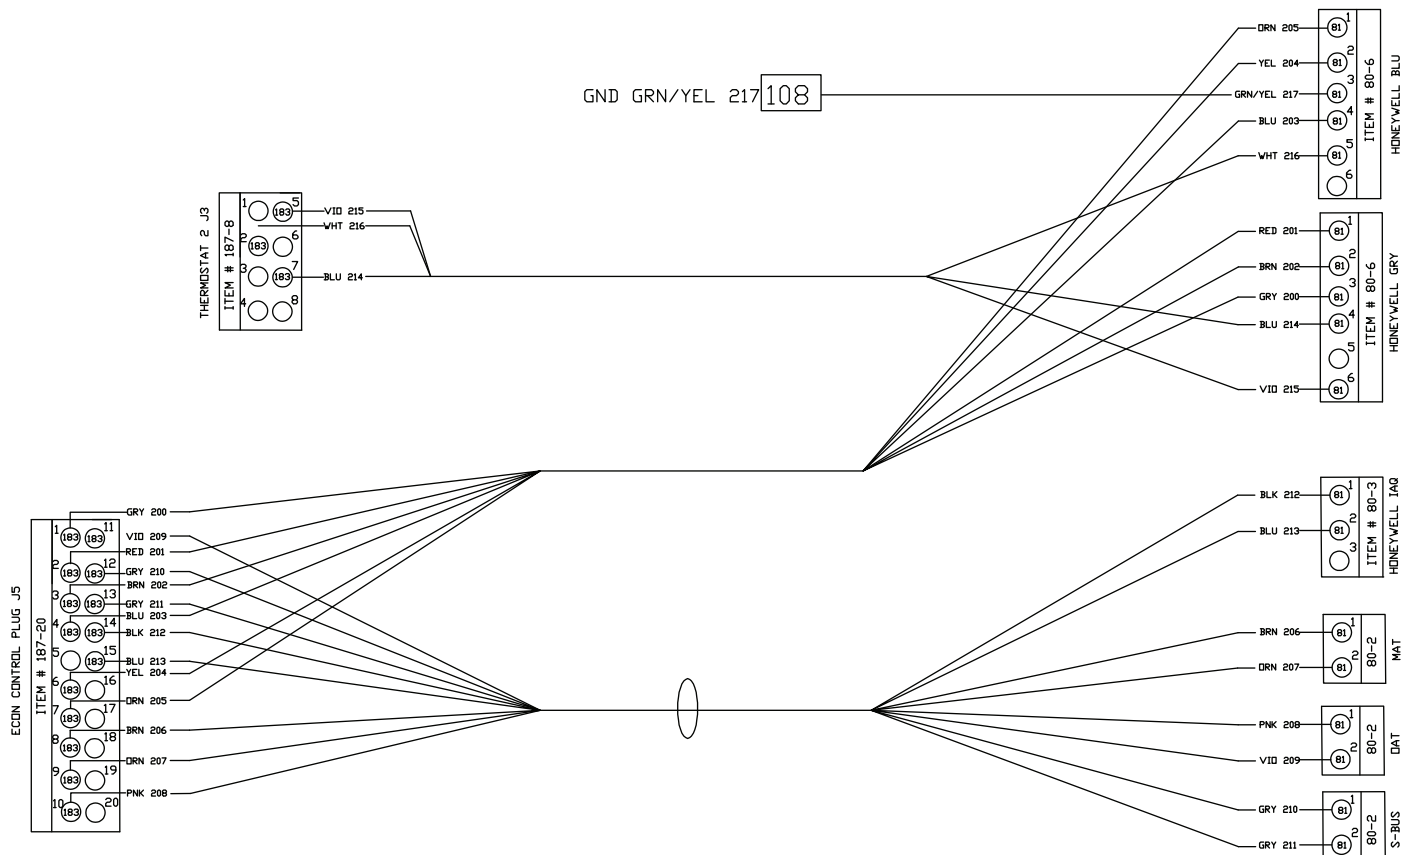

Fig. 26 — 48LCHSRADH--A00 W7220 Controller Harness Shipped With 48/50LC 07-12 Units
3. Step LC3. The 48/50LC 07-12 units that do not have a factory-installed economizer will have a new Jade W7220 controller wiring harness shipped in the control box section of the HVAC unit. This harness, Carrier part number 48LCHSRADH--A00, is shown below in Fig. 26 and 27.
4. Step LC4. The connectors on the right side of Fig. 26 on the 48LCHSRADH--A00 harness attach to the Jade W7220 controller installed in the unit control box. See Fig. 26 and 28. 48LCHSRADH--A00 harness connectors
6. Step LC6. The connectors on the left side of Fig. 26 on the 48LCHSRADH--A00 harness attach to the unit's CSC board. Connect J3 and J5 plugs to the CSC board.